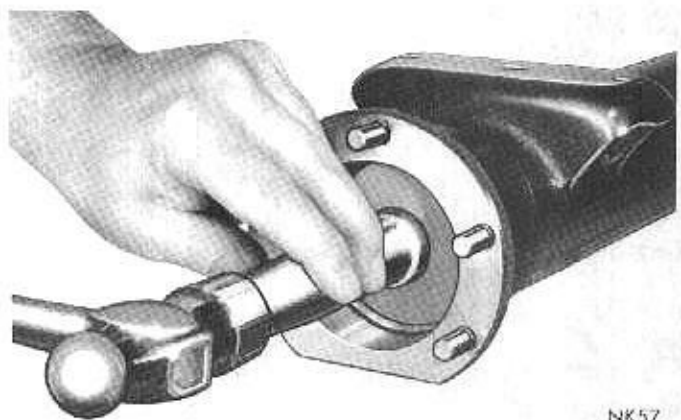

Fig. 5—Installing Axle Shaft Oil Seal
(6) Wipe axle housing seal bore clean and install a new axle shaft oil seal using Tool C-839 (Fig. 5).